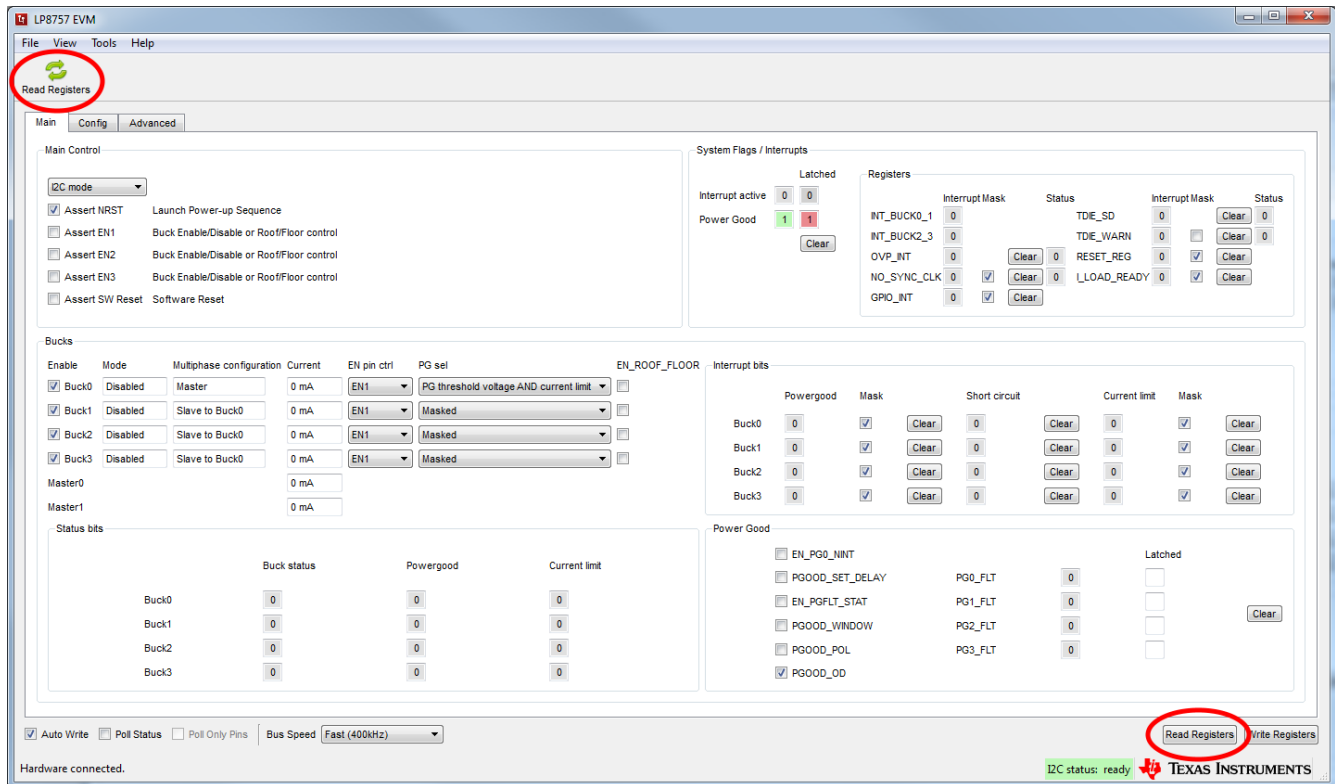

Figure 3-7. Read Registers Buttons
2. Click on either of the two Read Registers buttons. You should see ready message on green background next to the Read Registers button (see Figure 3-7).